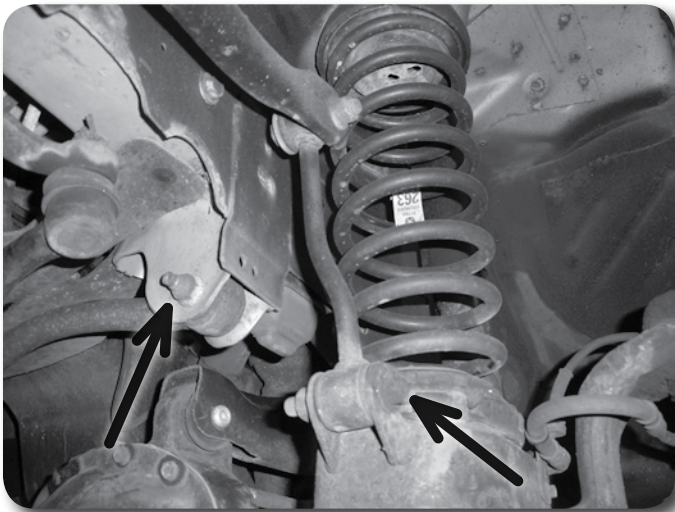

Figure 3
6. Disconnect the sway bar links from the axle mounts. **Figure 3** Save hardware.
11. Remove the bolt mounting the track bar to the driver's side frame mount. **Figure 3** Save hardware. The track bar will not be reused.